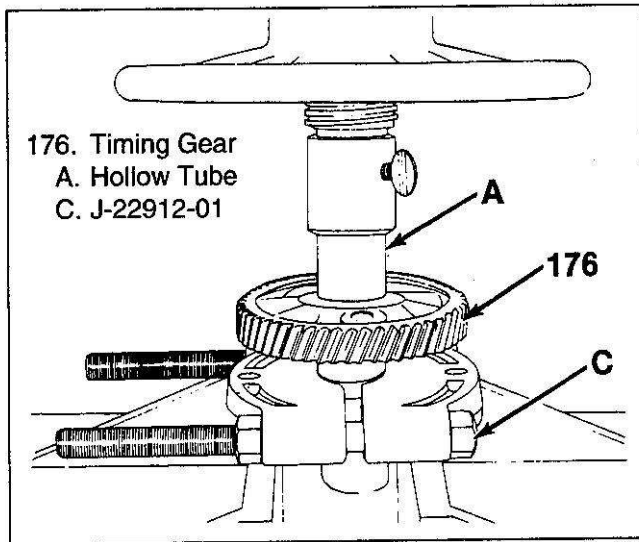

Figure 96. Installing the Camshaft Gear
5. Lubricate the thrust plate (178) with engine oil.
6. Install the thrust plate (178) to the camshaft (174).
7. Install the key (179).
8. Install the camshaft gear (176).
- Support the camshaft (174) in a press behind the front cam bearing journal. Use tool J-22912-01, or equivalent, as shown in figure 96.
- Press the camshaft gear (176) into place. Be sure the timing mark faces outside.
9. Install the bolt (177) and washer (175).